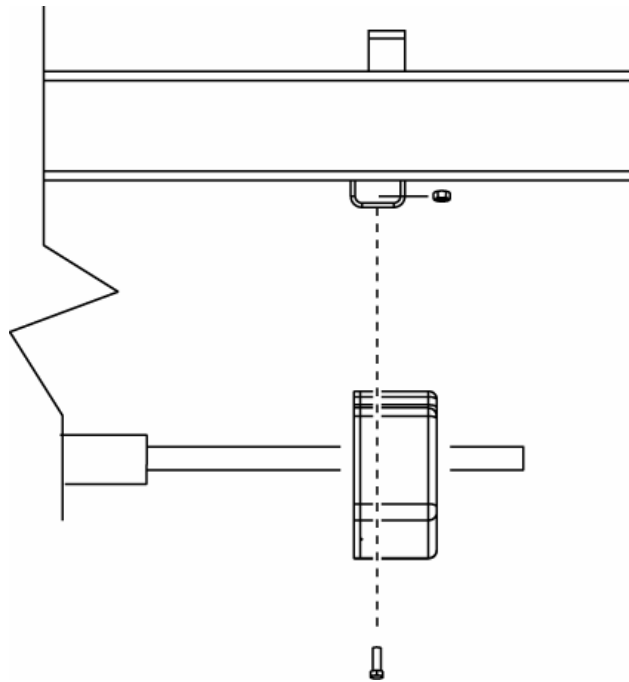

Figure 9
- * Using (2) 1/4-20 X 1/2 HHCS and (2) 1/4-20 Flanged Lock Nuts attach the overhead switch assembly to the overhead beam as shown in figure 9.